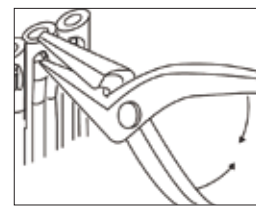
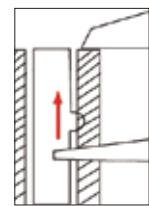

Fig.1
Fig.2
- 1) Insert the pointed jaw tip of the pliers into the hole of the bracelet. (Fig.1) Catch the link frame with the other flat jaw of the pliers. At this time, be careful not to catch the clip spring. Apply force to the pliers and the clip spring is removed. (Fig.2) Be sure to push in the direction of the arrow on the back of the bracelet.